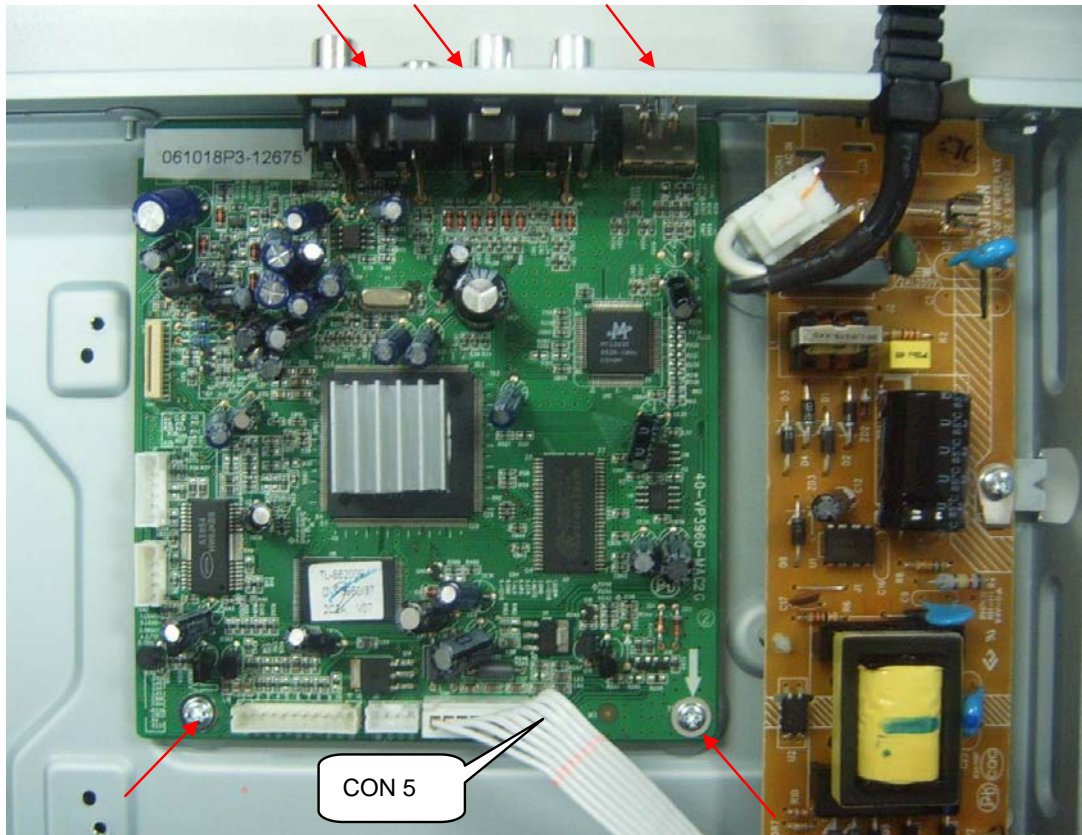

Figure 8
Step6: Dismantling Main Board, first disconnect the 1 connector, and then remove 5 screws to dismantle Main board. (Figure 8)